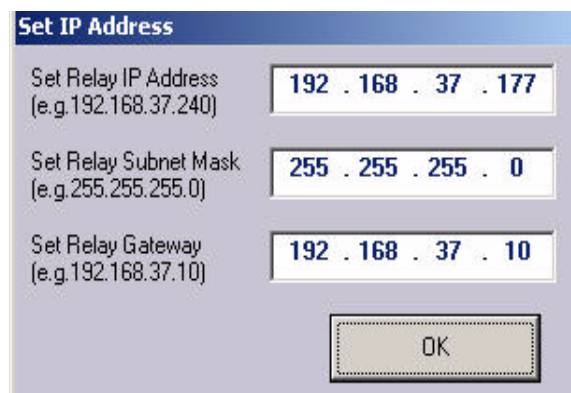

Figure 9–20: IP ADDRESS SETPOINT WINDOW
-Disable and **Enable** the Ethernet connection while the files are being sent (during the "Sending file..." message - Figure 9–19:). To do this, go to **STARTUP>CONTROL PANEL>NETWORK CONNECTION>LOCAL NETWORK>Right mouse key>Disable**. Now the Local Network status Icon will be shown as **Disabled**. In the same screen with **Right mouse key** over **LOCAL NETWORK** click **Enable** and wait until **Enabled** status is shown.